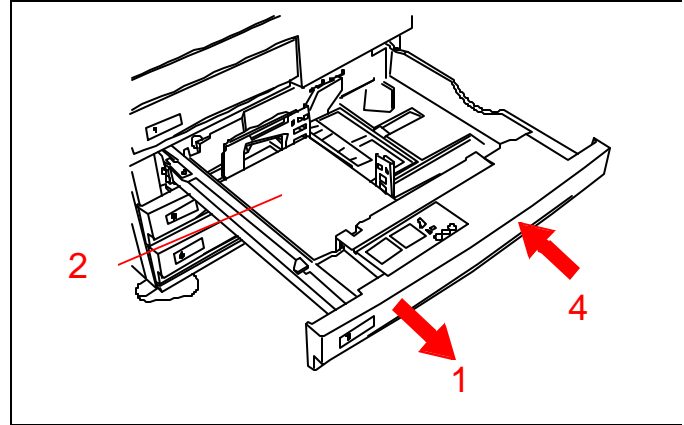

Figure 20
1. See Figure 20. Slowly open the paper tray. If the sound of tearing or crumpling paper can be heard, stop opening the tray and attempt to grasp and remove the paper without opening the drawer any farther.